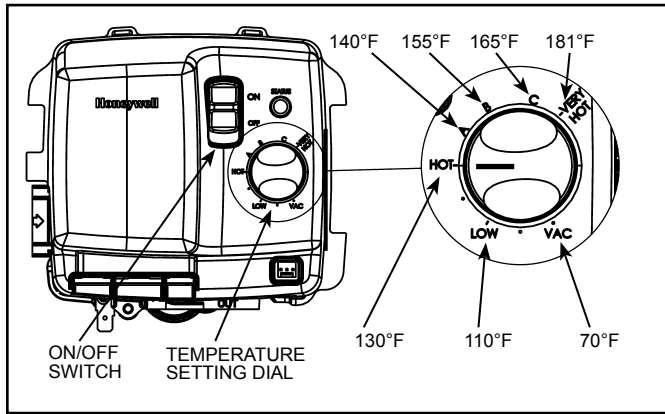

Figure 47
This water heater is equipped with an adjustable thermostat to control water temperature (see Figure 47). Hot water temperatures required for automatic dishwasher and laundry use can cause scald burns resulting in serious personal injury and/or death. The temperature at which injury occurs varies with the person's age and time of the exposure. The slower response time of children, aged or disabled persons increases the hazards to them. Never allow small children to use a hot-water tap, or to draw their own bath water. Never leave a child or disabled person unattended in a bathtub or shower.
The thermostat settings on the gas control valve are shown in Figure 47.
1. Turn the thermostat on the gas control to the lowest setting. If the heater is running, wait for it to shut down (see Figure 47).